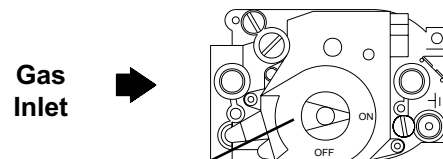

Figure 19. Gas control knob shown in "ON" position.
6. Wait five (5) minutes to clear out any gas. If you then smell gas, **STOP!** Follow "B" in the safety information above. If you don't smell gas, go to the next step.
7. Turn gas control knob counterclockwise  to "ON". See Figure 19.